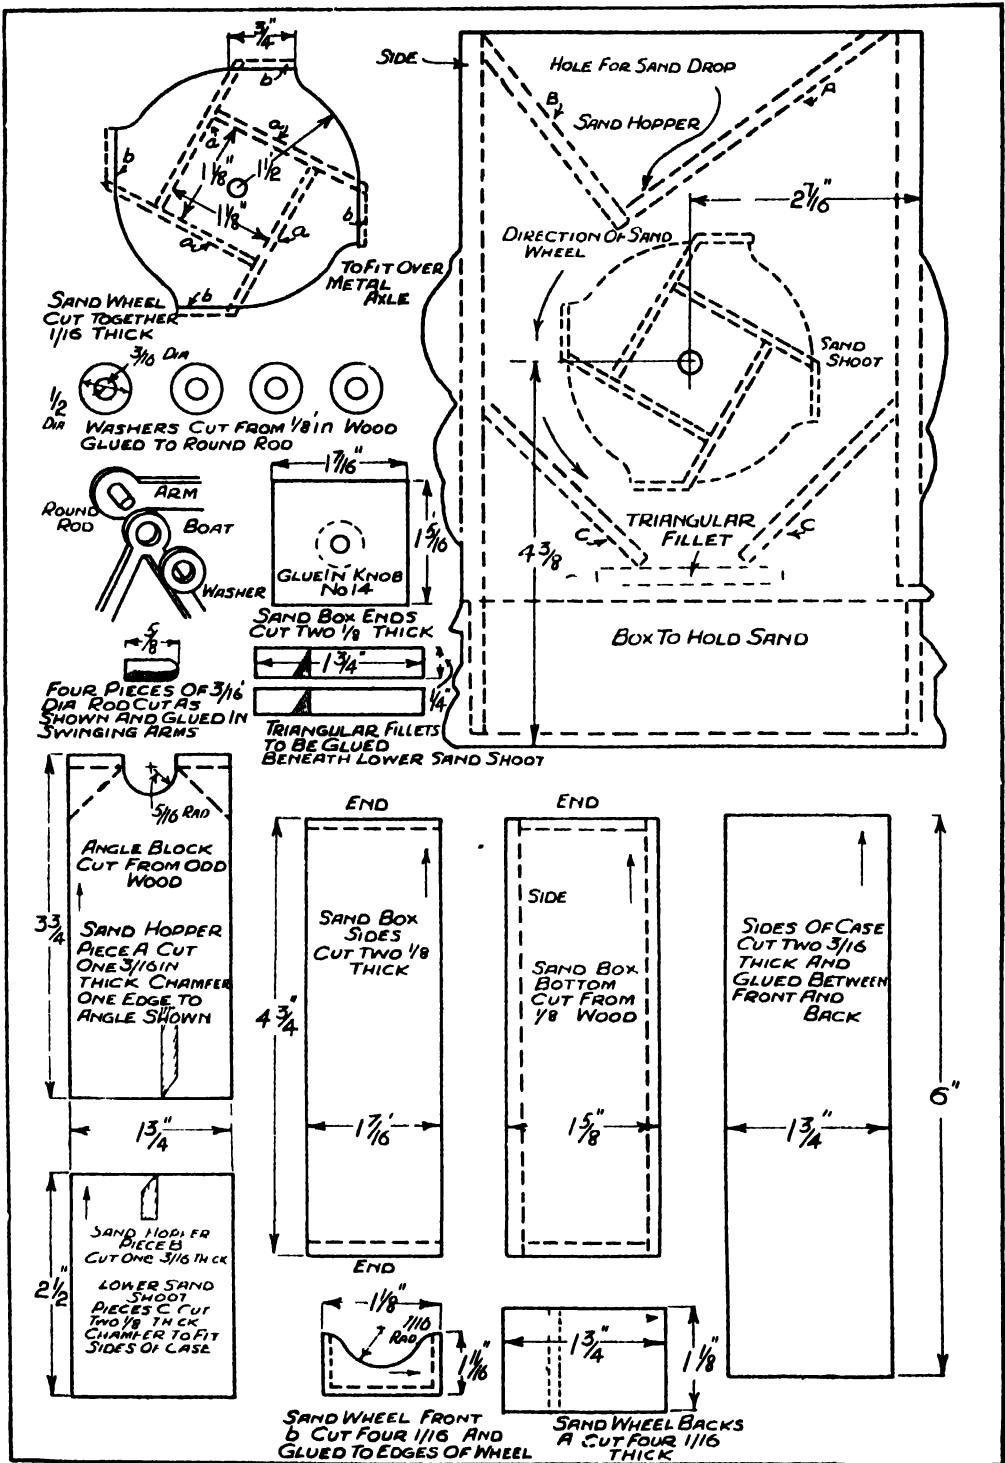

FIG 3
Now make up the wheel itself, using $\frac{1}{8}$ -inch pieces throughout. Two shaped sides are fitted over the pieces which form the scoops or buckets for the sand. The completed wheel is shown in Fig. 3, but one side has been purposely omitted to make the actual construction clearer. Be careful to see that the wheel blades A are glued at right angles to the sides, and to each other, so that a perfect square is formed round the central axle opening. To make a better scoop, the small pieces (B) which form the front of the box are glued to the blades themselves and on to the sides of the wheel. The axle which passes through the centre of the wheel should fit it quite tightly, and a liberal supply of glue added round the outside of it will give further strength.
C which form the chute. When the sand has left the box, it runs down this chute into the drawer at the bottom. This drawer can be taken out, and the sand returned to the hopper above. The two chute pieces can be seen in Fig. 3, and—as in the case of the hopper—fillet pieces are glued to the back and front to carry the sand towards the central hole. These fillet pieces are cut from $\frac{1}{16}$ -inch wood, and have the top face sloped down towards the hole before they are glued in place on the back and front. A picture of the drawer into which the sand falls is shown at Fig. 5. It is made of five parts all cut from $\frac{1}{8}$ -inch wood. The two sides are glued on the bottom, and then the two ends put between. Little corner blocks can be added inside if required to give strength. Each end of the drawer is provided with a small knob to make it easy to take out from the model. In constructing the drawer,
The swinging-boat arms are completed in the same manner, but have the addition of the loose boats which hang at the ends of them. At the end of each arm is glued a $\frac{1}{4}$ -inch length of $\frac{3}{16}$ -inch round rod. The swinging boat itself hangs on this rod, and must have the hole cut at the top sufficiently large to allow it to swing easily as the arms rotate. The boat is prevented from slipping off by a small wooden washer cut from $\frac{1}{8}$ -inch wood and glued to the end of the projecting rod (see Fig. 3). When the arms go round, the weight of the boat should be sufficient to keep it always level. A realistic effect is obtained if the picture is coloured in with water paints or poster colours.